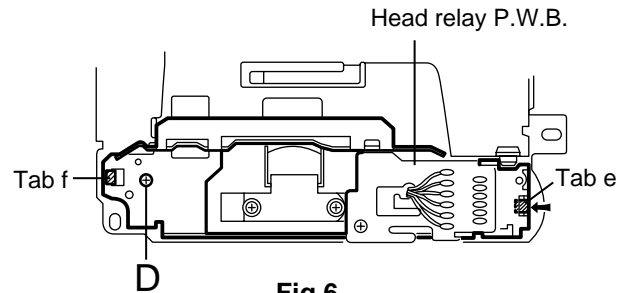

**Fig.5**
**■ Removing the load arm (See Fig.5)**